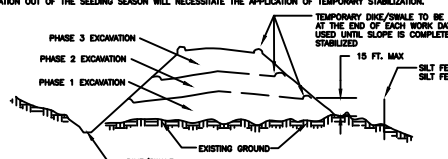

FIGURE B.2 INCREMENTAL STABILIZATION - FILL SLOPES
4. CONSTRUCTION SEQUENCE EXAMPLE (REFER TO FIGURE B.2):